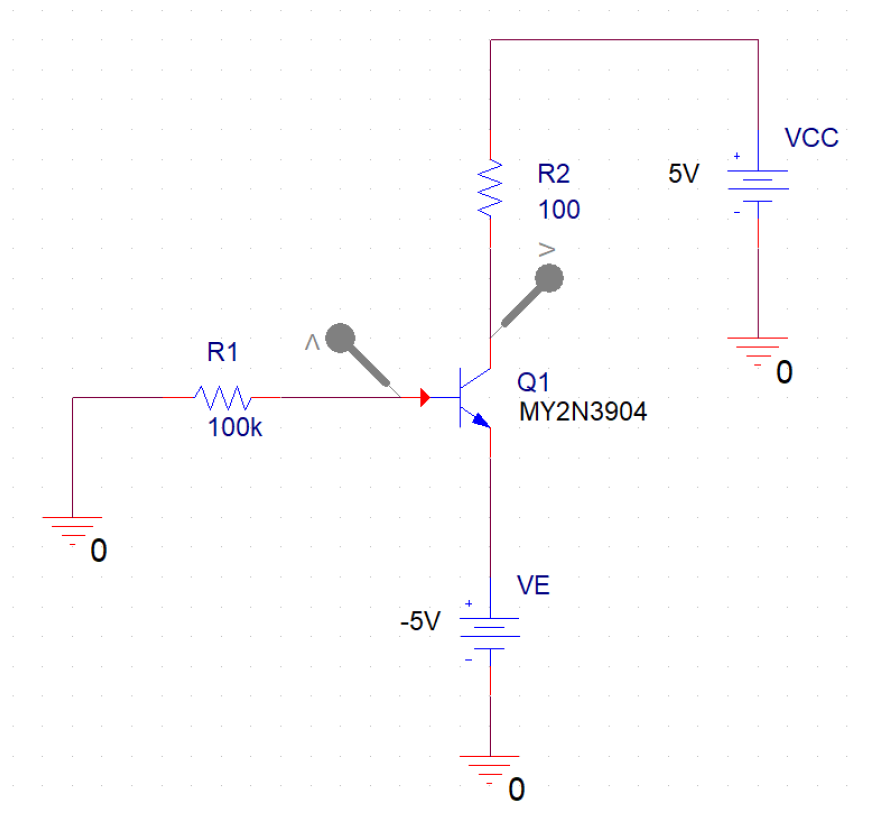

Fig. 1 The schematic diagram for the DC characterization of an NPN-BJT 2N3904
- 1.1 In Avenue to Learn, *Lab 1: Device Characterization and Biasing Circuits*, use the tutorials under the submodule “OrCAD PSpice” to prepare the circuit diagram in Fig. 1 to characterize an NPN-BJT 2N3904. Because AD2 only measures voltages, we use R_1 and R_2 in Fig. 1 as the current sensors and obtain $I_B = -V(Q_{1B})/R_1$ and $I_C = [V_{CC} - V(Q_{1C})]/R_2$.